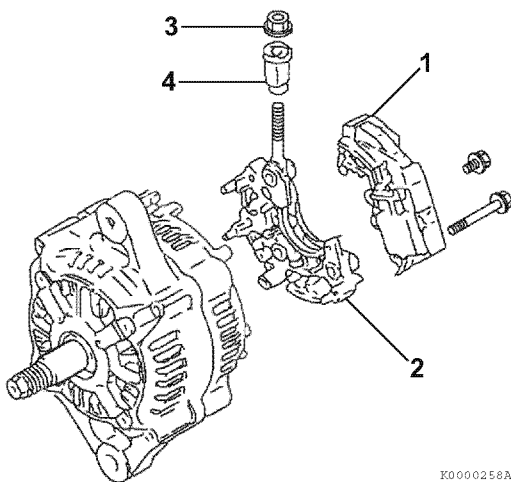

Figure 11-16
- Reinstall the insulation bushing (4, **Figure 11-16**) and nut (3, **Figure 11-16**).
- Reassemble the regulator assembly (1, **Figure 11-16**) to the holder (2, **Figure 11-16**).